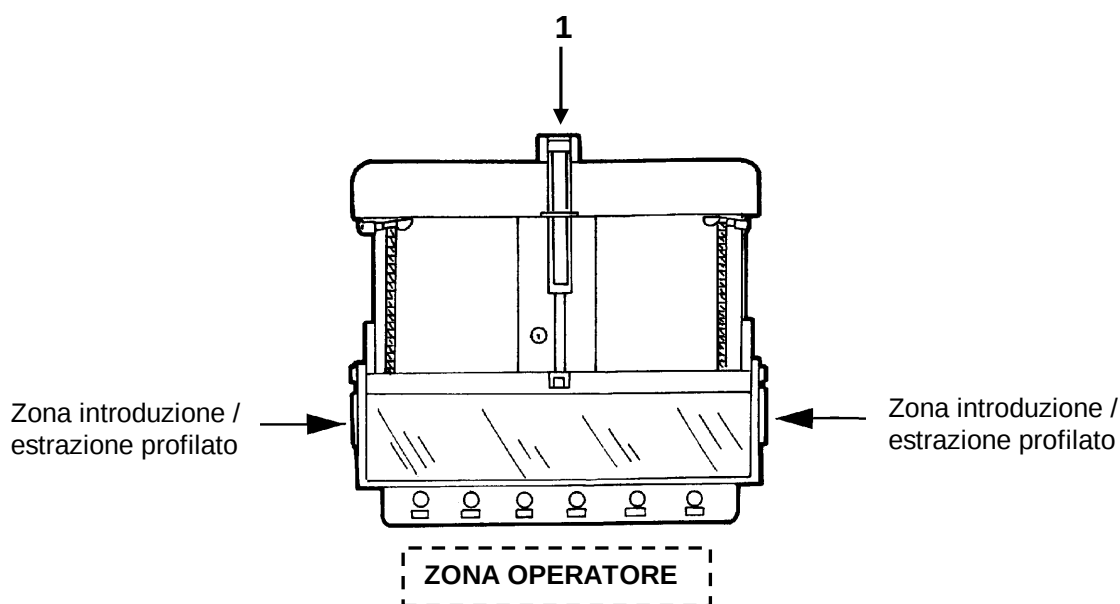

Fig. 04-01
4.5 ZONE A RISCHIO E A RISCHIO RESIDUO (Fig. 04-01)